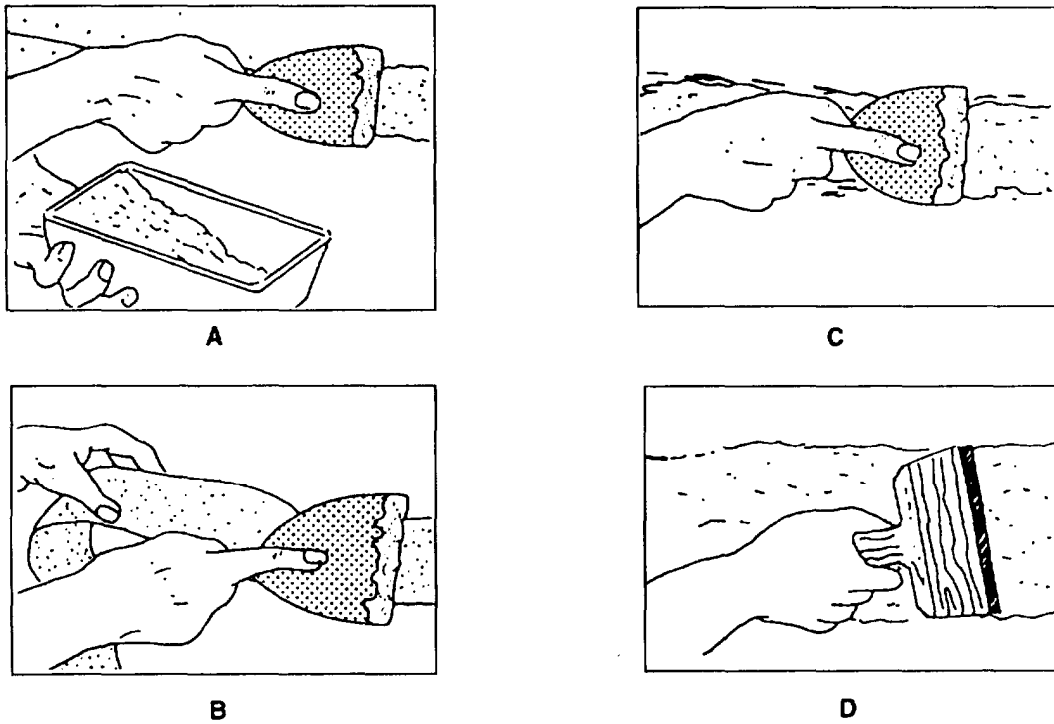

Figure 5-9.—Finishing drywall joints.
Where sheets of drywall join, the joints are covered with joint tape and compound (fig. 5-9). The procedure is straightforward.
1. Spread a swath of bedding compound about 4 inches wide down the center of the joint (fig. 5-9, view A). Press the tape into the center of the joint with a 6-inch finish knife (fig. 5-9, view B). Apply another coat of compound over the first to bury the tape (fig. 5-9, view C). As you apply the compound over the tape, bear down so you take up any excess. Scrape clean any excess, however, as sanding it off can be tedious.